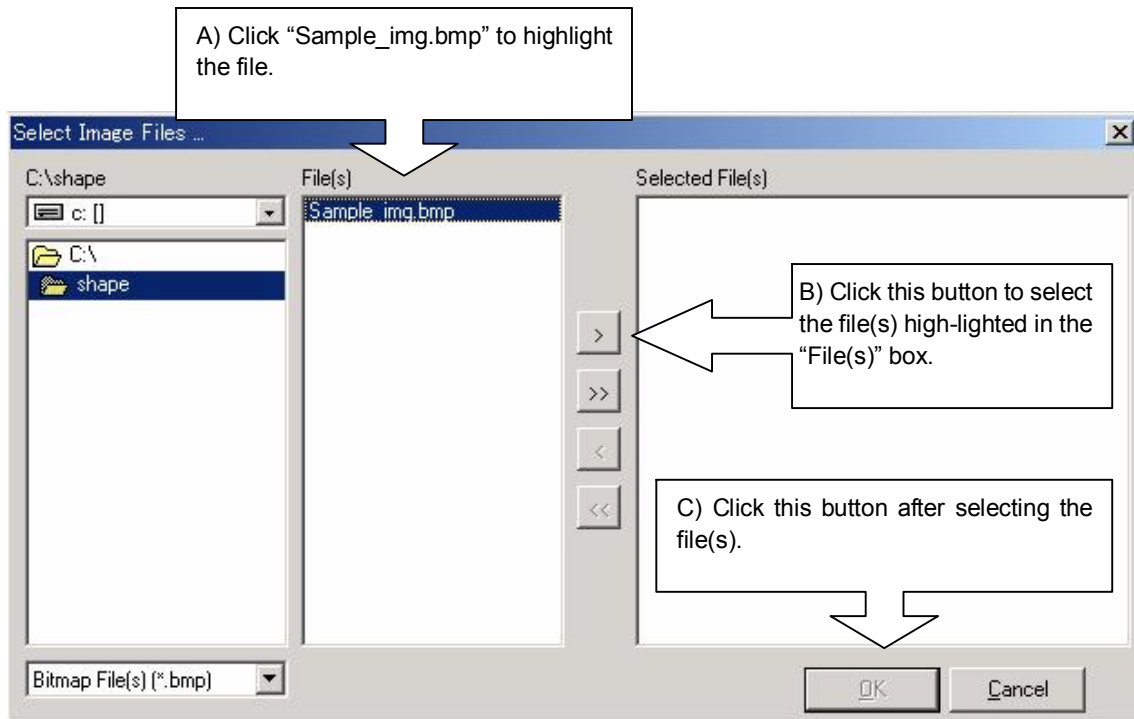

Fig. 5
4. Select the image file(s) that you are going to analyze as follows (A-C) (Fig. 5).